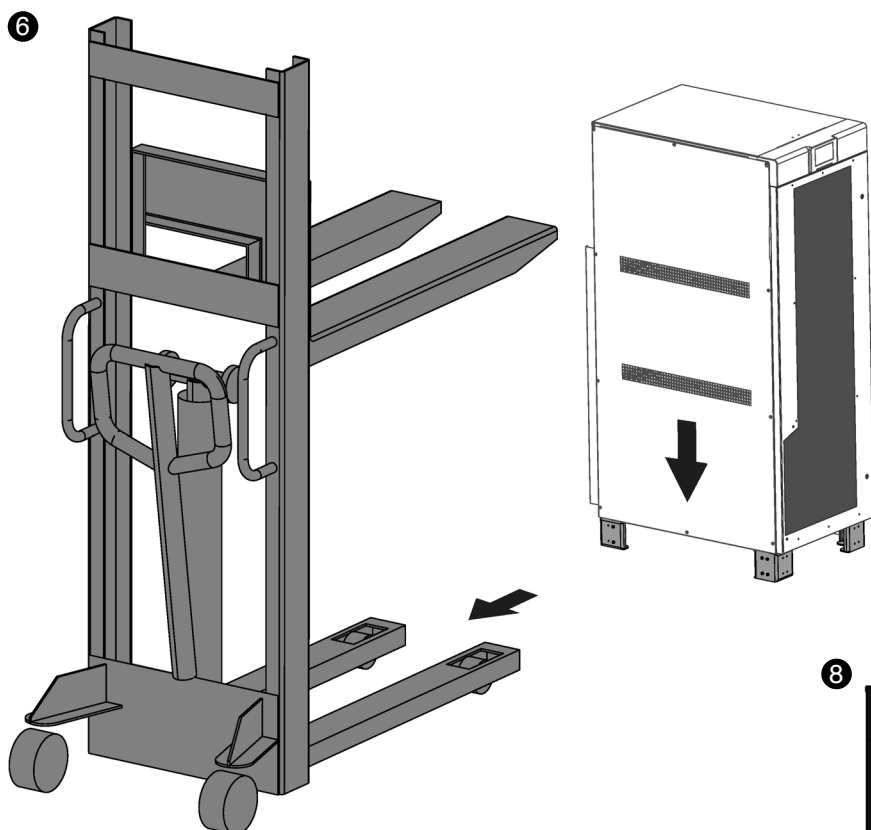

Fig. 33. Final location of the equipment and removal of the pallet truck.
- ❻ Move the equipment to its final location (Fig. 33).